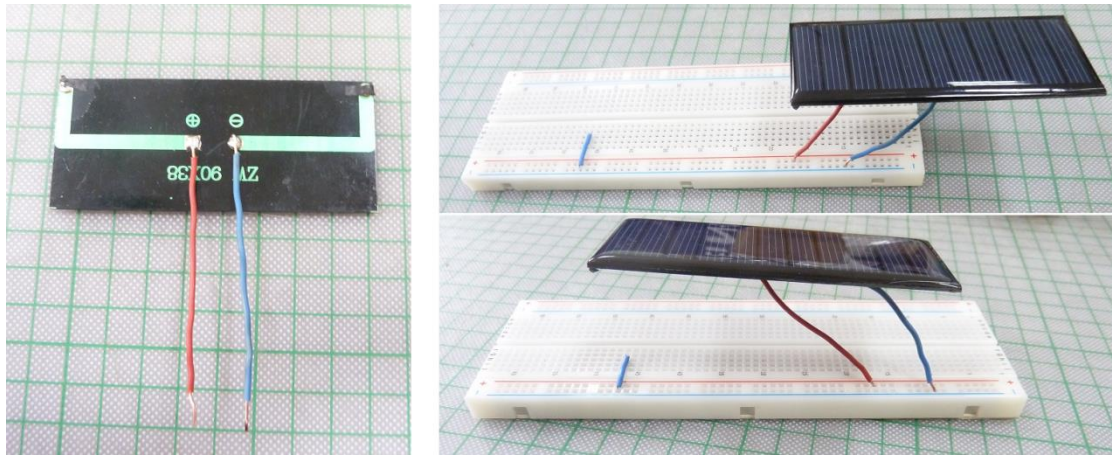

Figure 32: Single core solid copper wires soldered to the solar panel's terminals.
- Use single core solid copper wires for the solar cells as these wires are can be adjusted at the desired height or direction so that the cell will look towards the light (see Fig. 32).